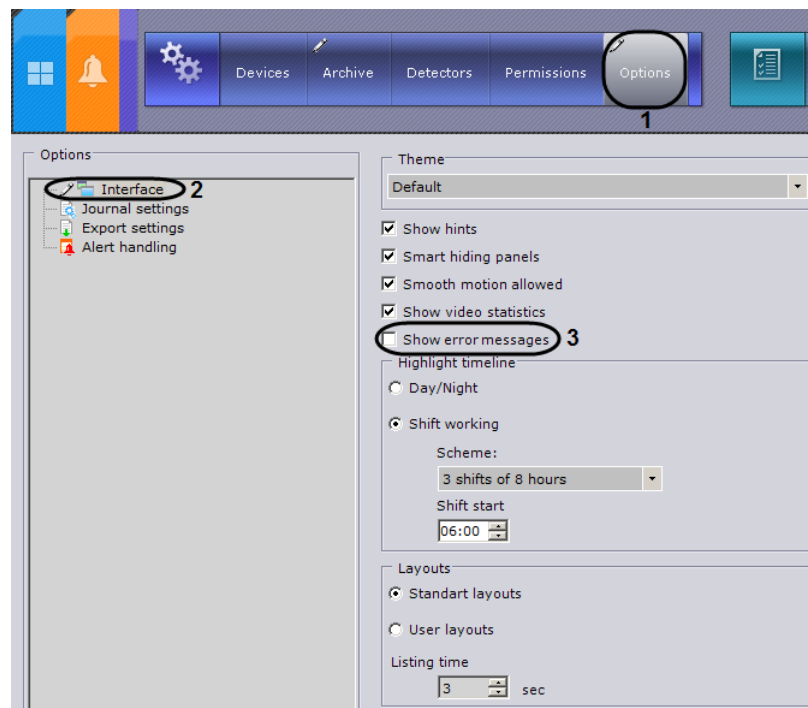

Fig. 6.6—9 Configuring display of error messages
2. Deselect the **Show error messages** checkbox (see Fig. 6.6—9, 3).